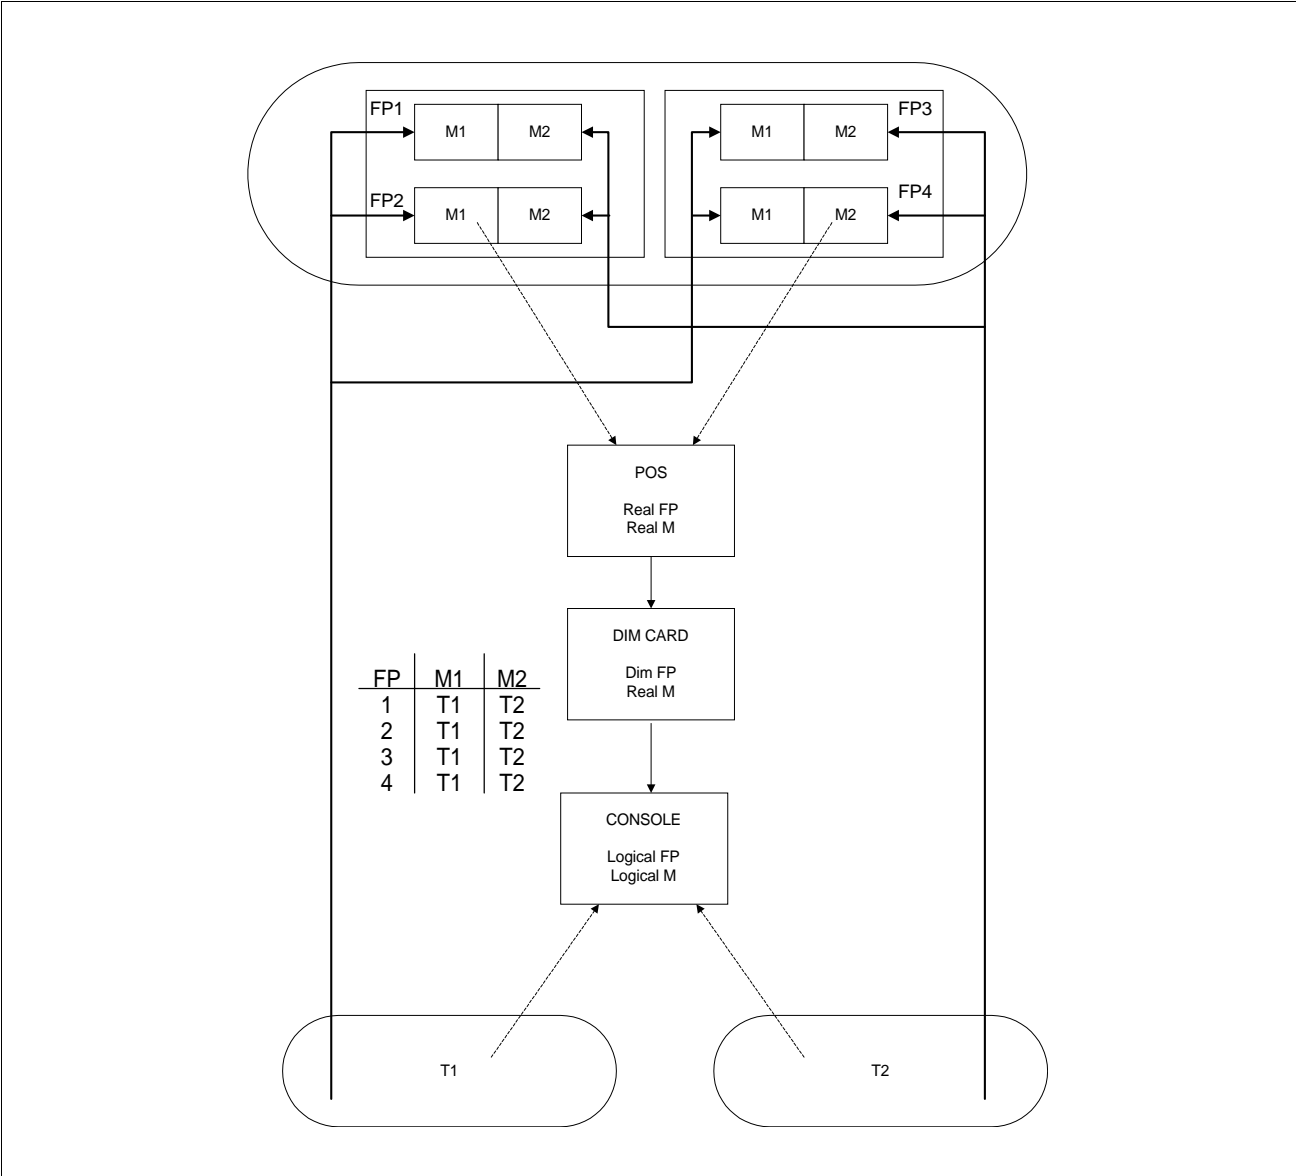

Figure 12-1. Tank/Meter Map Diagram
A POS terminal identifies a specific meter by reporting a Fueling Position (FP) number and a Meter (M) number (see Figure 12-1). The translation or cross referencing of the FP and M numbers reported by the POS terminal is necessary because of console memory limitations.